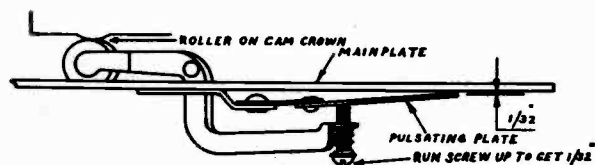

FIG. 6
When the turntable is revolving the pulsating plate of the reject mechanism should clear the main plate by $\frac{1}{32}$ of inch when the crown on the cam attached to the underside of the turntable touches the pulsating lever roller as shown in Figure 6. To make this adjustment proceed as follows:
1. Rotate turntable until the crown of the cam under turntable touches roller of pulsating lever as shown in Figure 6.